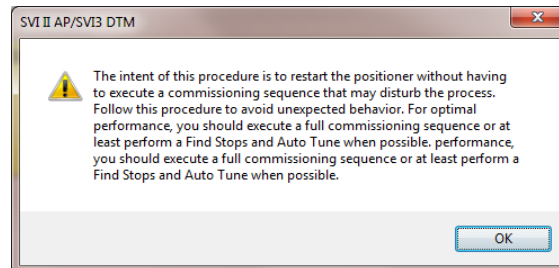

Figure 109 - Load Data to Clone Device
4. Click **Step 2: Load Data to Clone Device** in the navigation pane and Figure 109 appears.